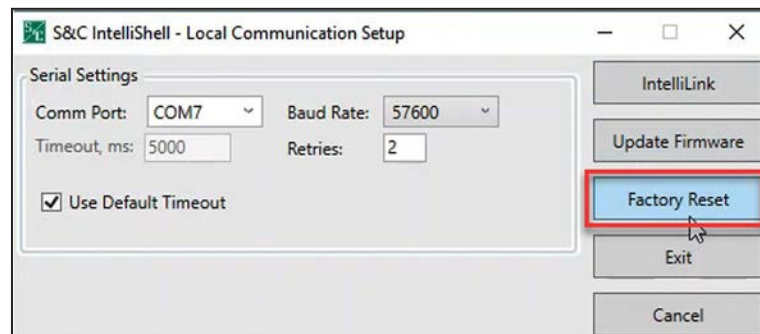

Figure 49. The Factory Reset button.
STEP 3. Click on the **Factory Reset** option to launch the **Factory Reset** procedure. See Figure 49.